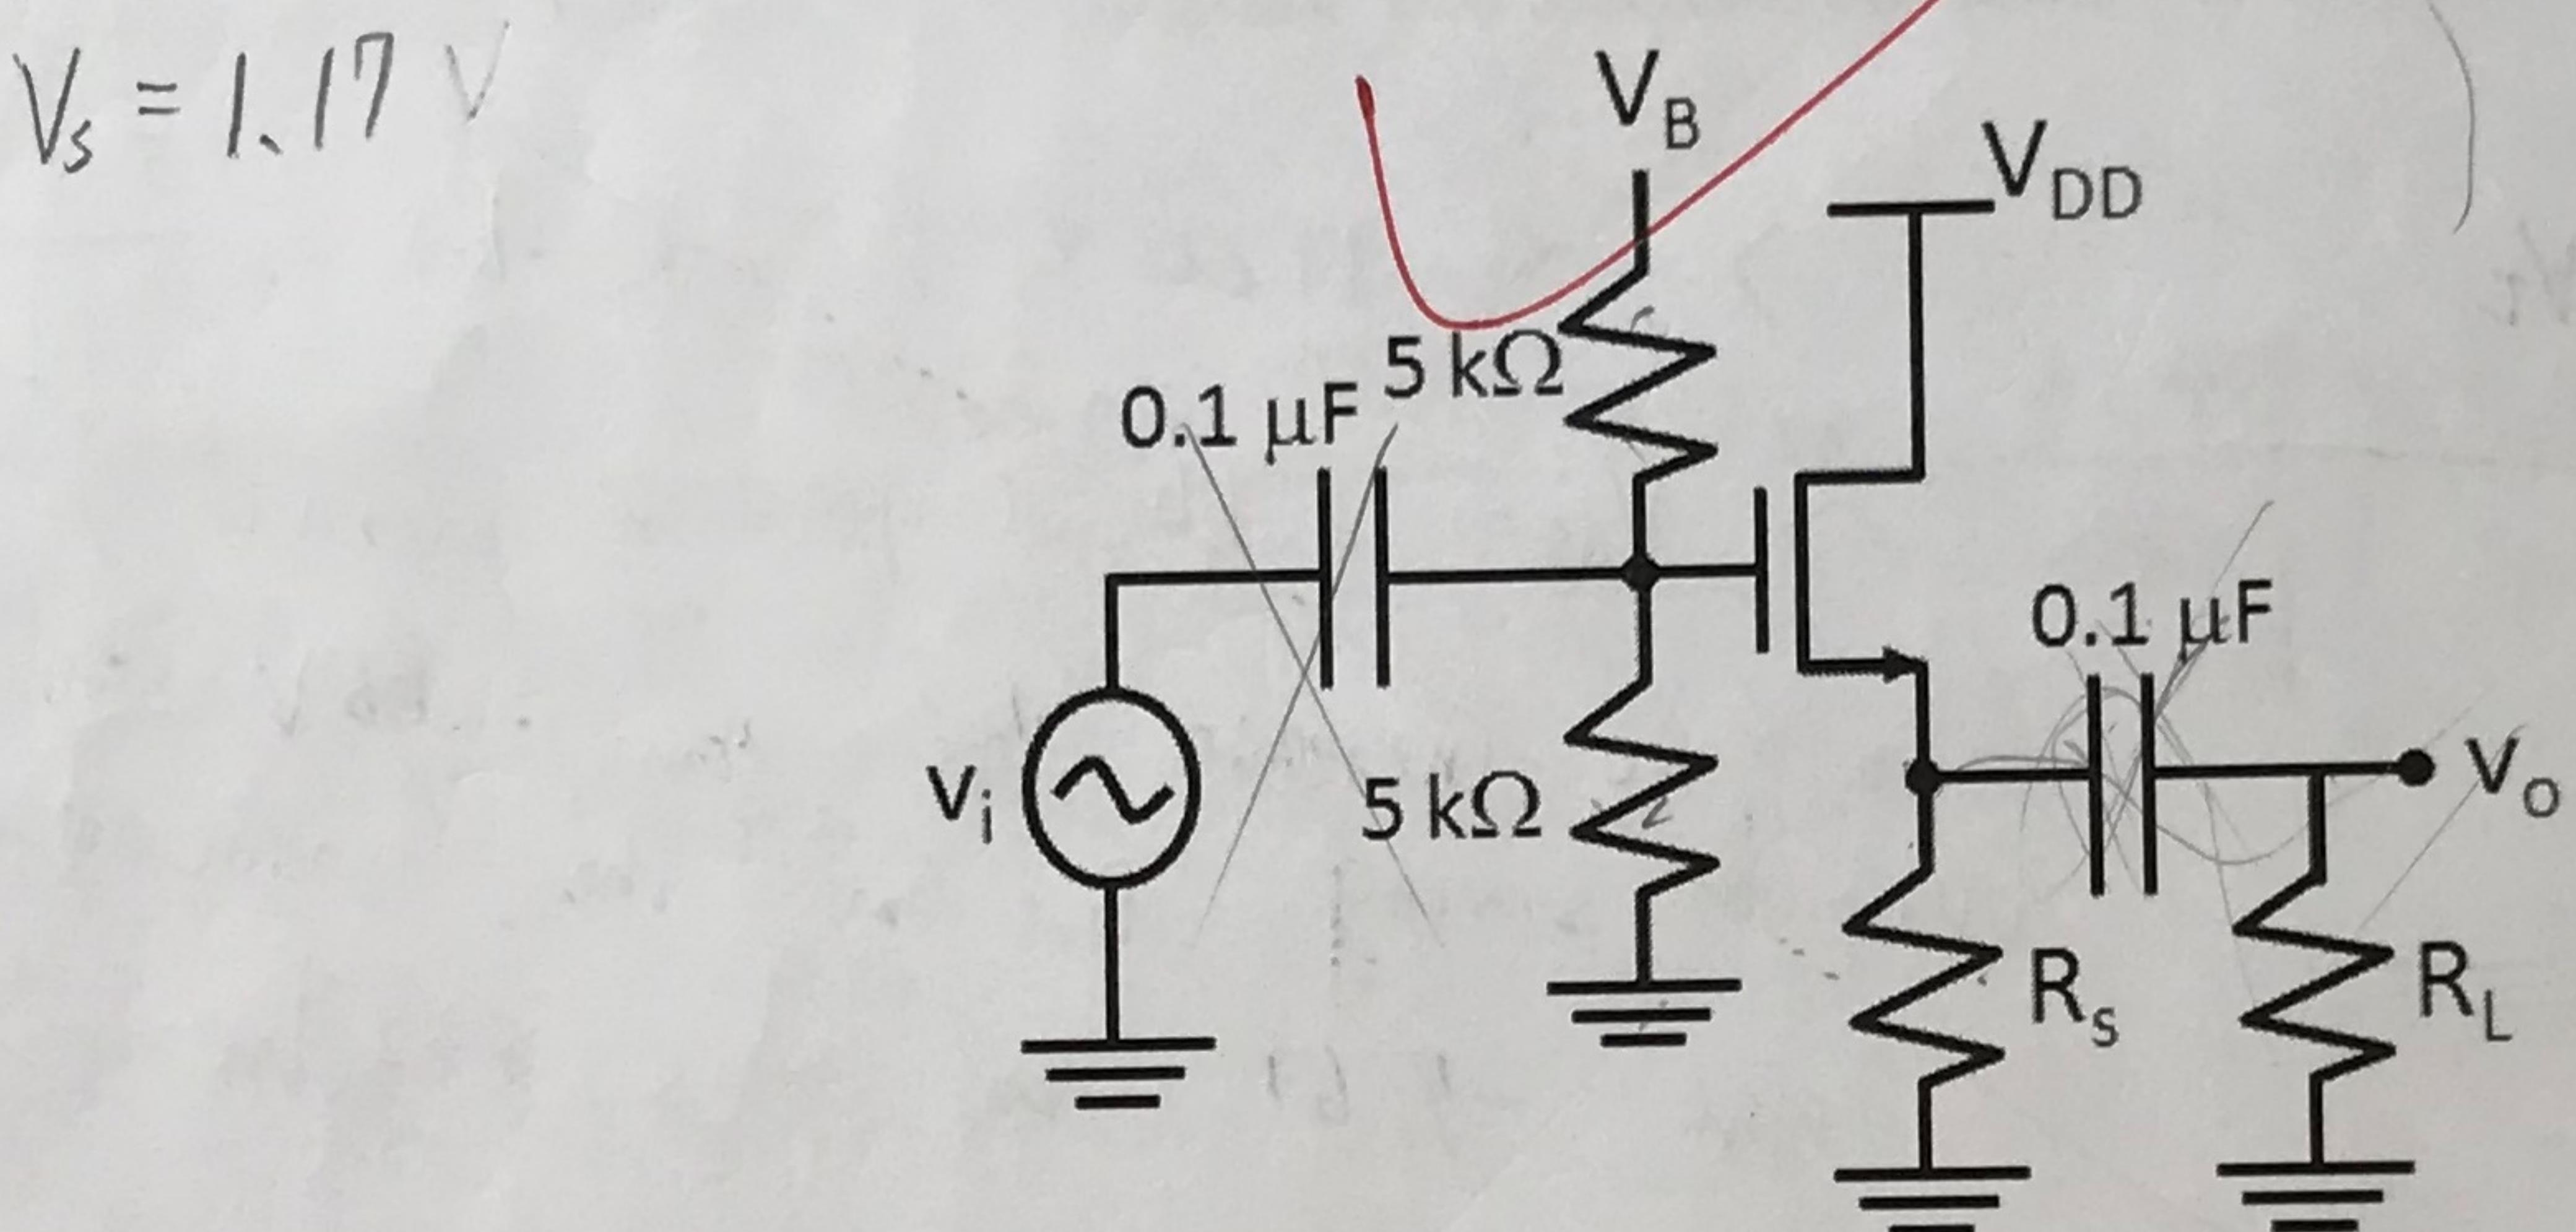

Fig. 3: Use different load resistors to test a CD amplifier.
1. Design the common-drain amplifier with the transistor of nodes 6-7-8 to achieve a small-signal gain larger than 0.8 by selecting R_s , where R_s is connected to the source of the transistor directly (please refer to Fig. 3, but do not connect R_L and $0.1 \mu F$ for now). Set $V_{DD} = 5.0$ V and $V_G = 3.0$ V. Please explain your design process.
2. Add an additional resistor R_L and a coupling capacitor $0.1 \mu F$ as shown in Fig. 3 for the CD amplifier design. Use R_L values of $1 K\Omega$ and $10 K\Omega$, respectively, and measure the mid-band small-signal gain. This test is to investigate the effect of the load resistor on a CD amplifier. Compare the results under the two different loads. Also, compare the measured results with hand calculation. Comment on what you observe.